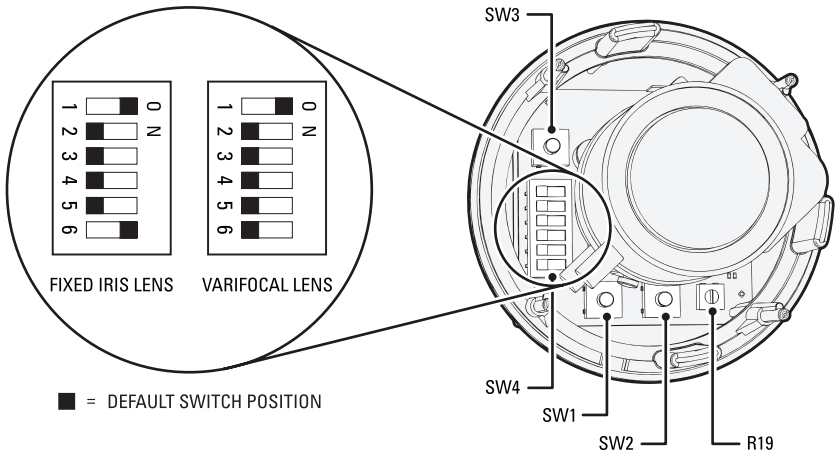

Figure 12. Adjusting the IS90-DN/CH/C Series Camclosure
Refer to Figure 12 to adjust the IS90-DN, IS90-CH, or IS90-C model.
To adjust the auto iris DC-drive level (refer to Figure 12 on page 18):
2. Select the camera to synchronize. Use buttons SW1 and SW2 to synchronize the camera to the reference camera (refer to Figure 12 on page 18). SW1 increases vertical phase; SW2 decreases vertical phase.
To manually correct defective pixels (refer to Figure 12 on page 18):